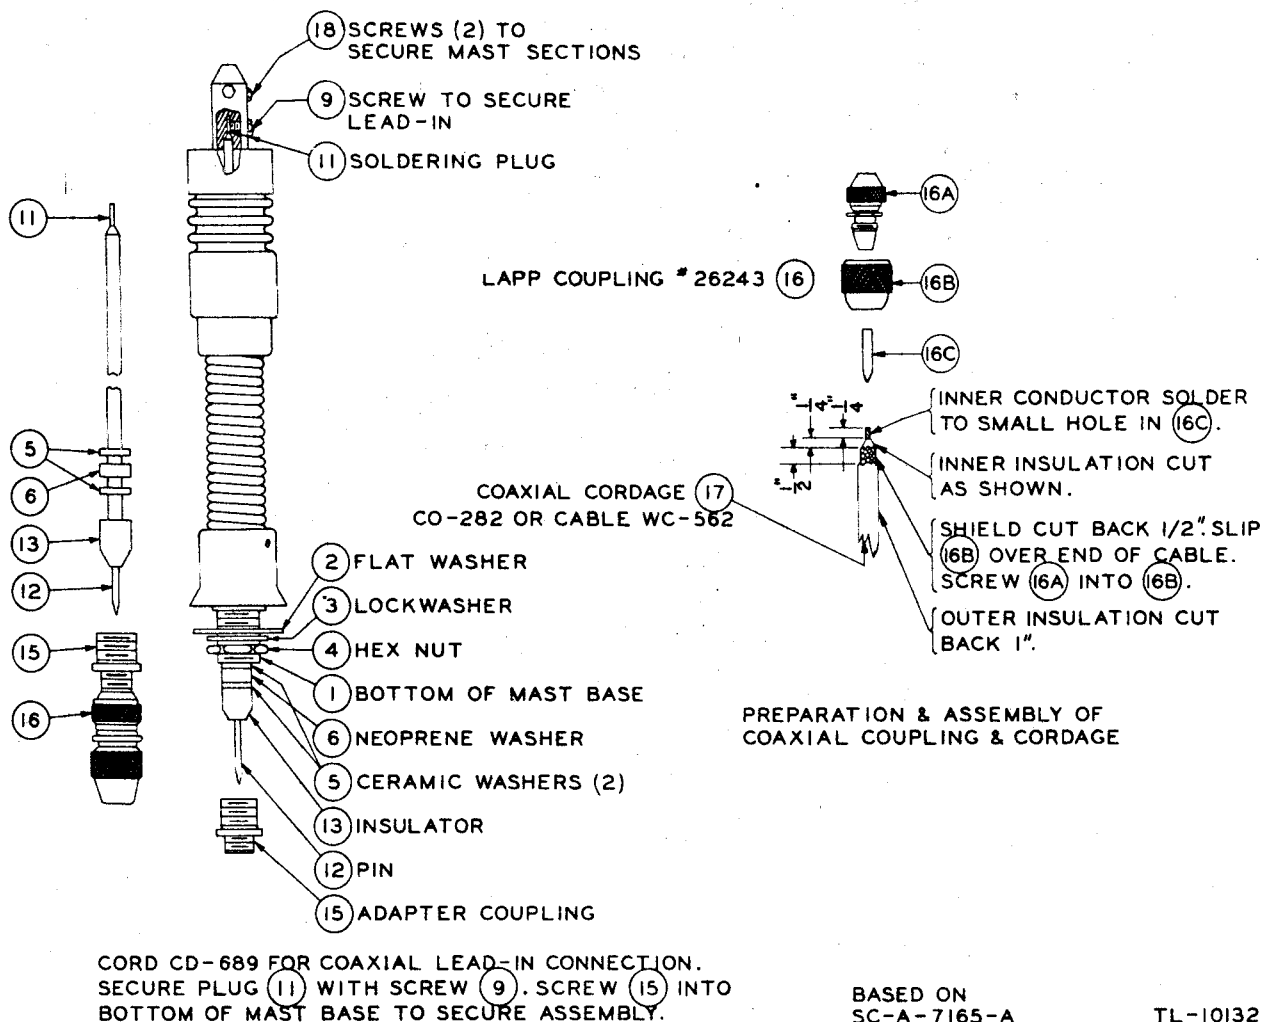

Figure 7. Details of Mast Base MP-48-A.
6. **MAST BASE MP-48-A.** Mast Base MP-48-A is installed through the hole in the mast-base well, provided in the top of Cabinet CH-217. Install Cord CD-689 inside the mast base (fig. 7). Remove screw, item 9, in order to observe